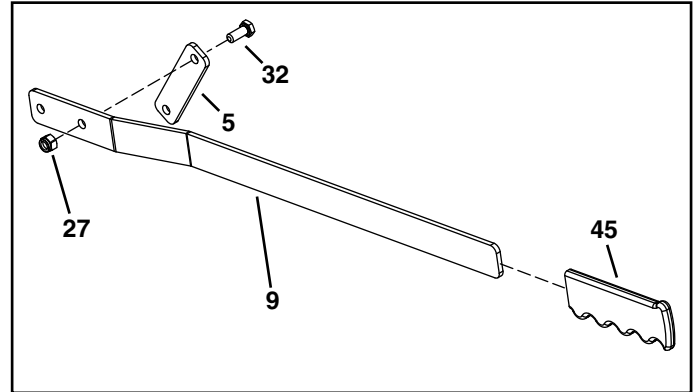

FIGURE 2
- On the right side, assemble the handle brace bracket (5) to the lift handle (9) using a 5/16" x 3/4" hex bolt (32) and 5/16" nylock nut (27). See figure 2.
- Assemble the grip (45) onto the lift handle.